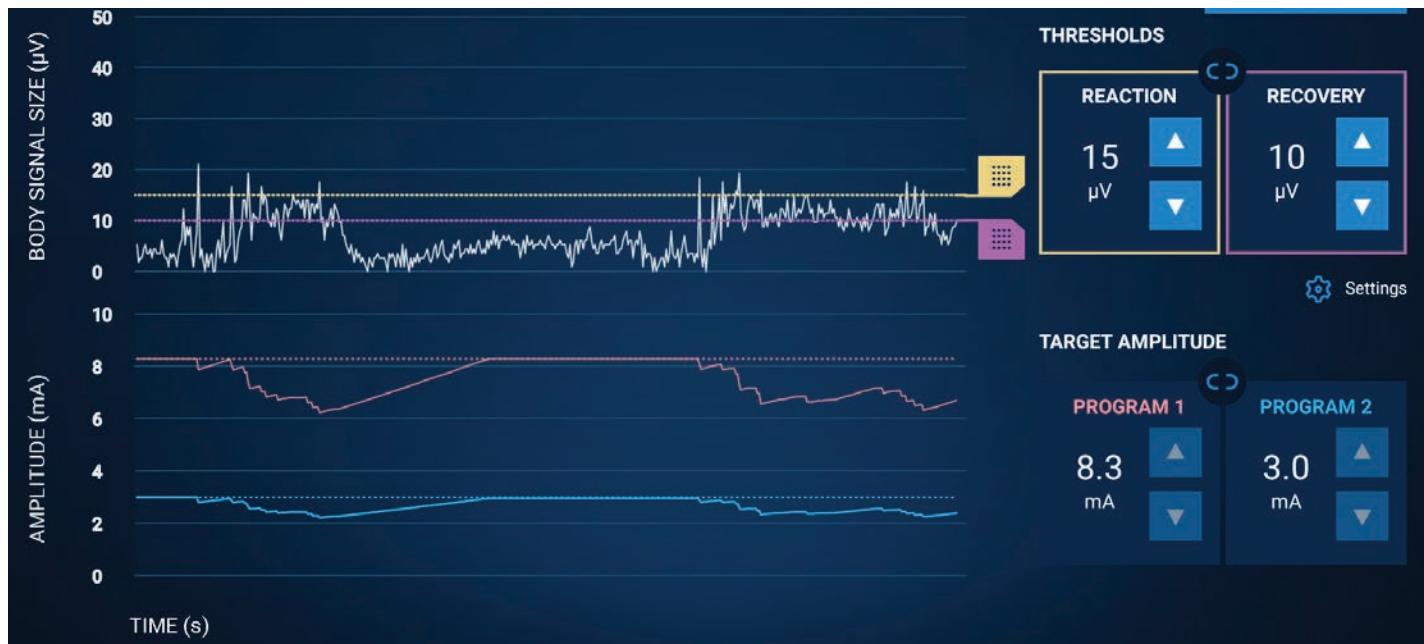

Figure 4. Example of data captured when Neuro Sense programming is in Active mode.
Figure 4 shows the type of data captured when Neuro Sense programming is in Active mode and the patient is performing various movements and activities.
3. As data is streaming, review the body signal size data in the top graph and the amplitude data in the bottom graph (see Figure 4 on page 39).